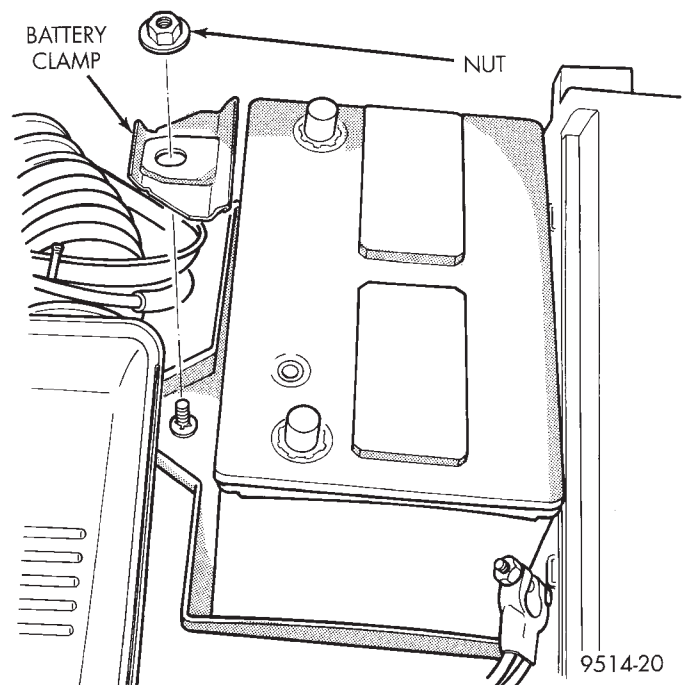

Fig. 4 Battery Clamp
- (1) Disconnect both cables from battery, negative cable first.
- (2) Remove 2 screws holding PDC to bracket, swing out of way.
- (3) Remove nut and clamp holding battery to battery tray (Fig. 4).